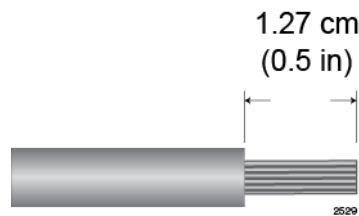

Figure 116. Stripping the Power Wires
1. Prepare adequate lengths of two stranded 8 AWG power wires by stripping them as shown in Figure 116.